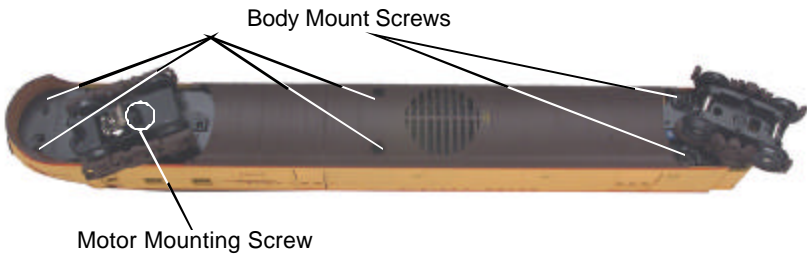

Figure 6: Removing the body from the head end chassis
1. To access the gear box, remove the cab from the chassis by unscrewing the chassis screws as seen in Figure 6 & 7 and lifting the cab from the chassis.
2. Once the cab(s) are removed, remove the trucks by unscrewing the black Phillips motor mount screw located on the underside of the drive trucks (see Fig. 6 & 7).